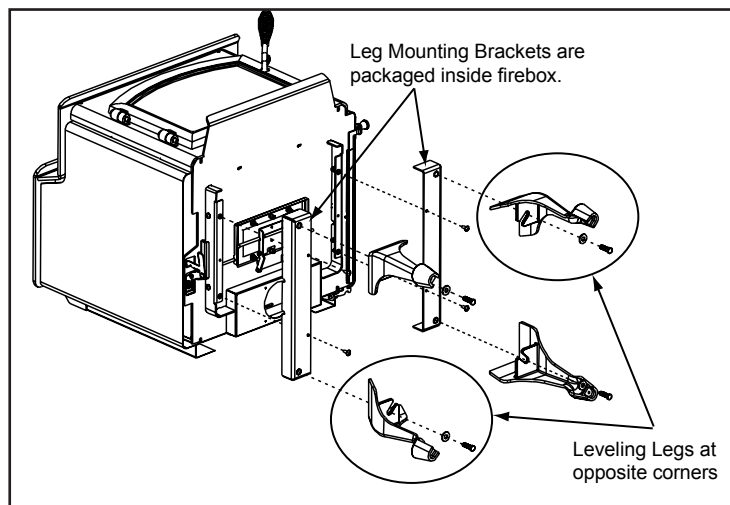

Figure 23.1
3. Loosely assemble bolts into the corner of the mounting brackets for leg attachment. **Figure 23.1**.
4. Slide legs onto mounting brackets making sure the legs are up against the bracket and secure with bolts supplied. There are leveling bolts in 2 legs. These leveling legs should be in opposite corners. **Figure 23.1**.